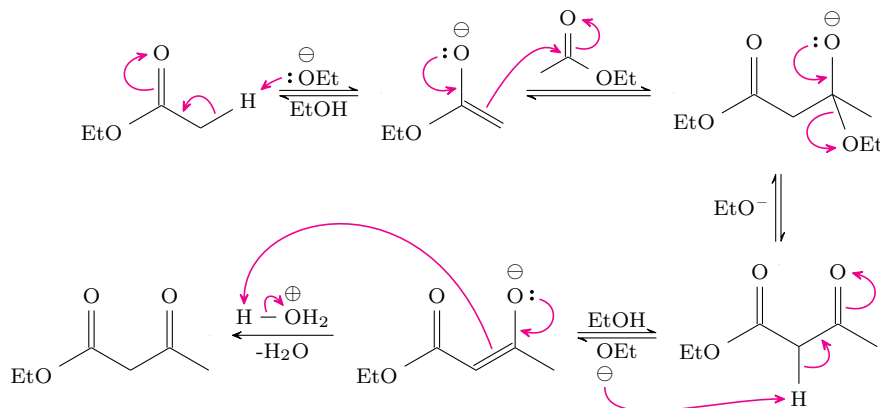

Figure 6.4: Claisen condensation mechanism.
- Following the mechanism in Figure 6.4, the third intermediate will have two methyl groups where the dual α -proton(s) should be.